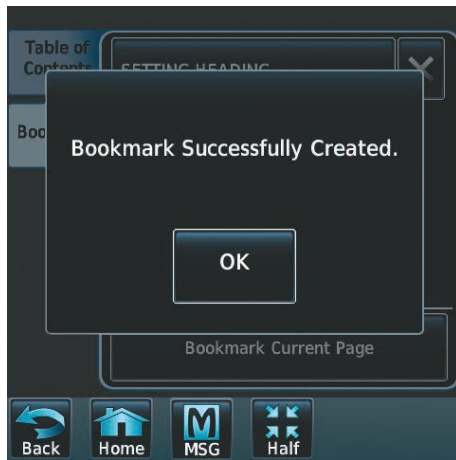

Figure 8-117 Bookmark Created
- 4) Touch **Enter**. A confirmation screen is displayed as seen in Figure 8-117.